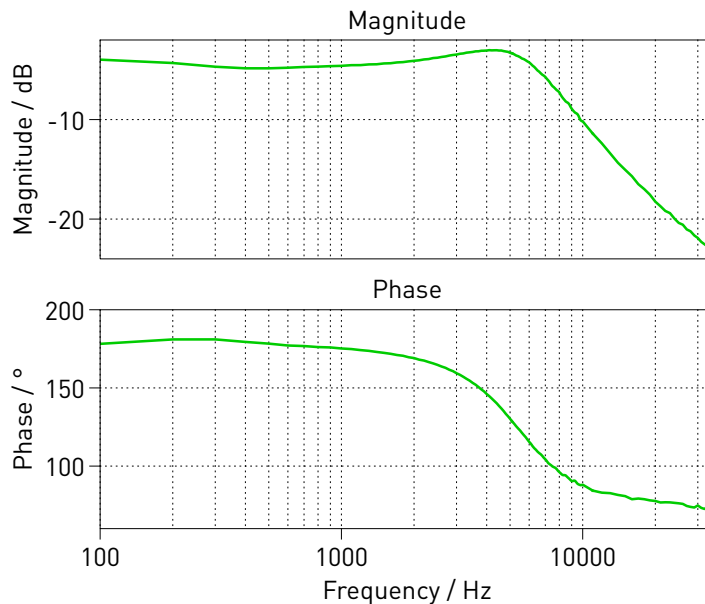

Fig. 3: Open-loop transfer function for the half-bridge LLC resonant converter
- *Standalone:* Choose **Analysis tools...** from the **Simulation** menu. Run the Multitone or Frequency Response Analysis for the “OpenLoopAnalysis” analysis. This provides the transfer function for the open-loop system. The result is shown in Fig. 3.